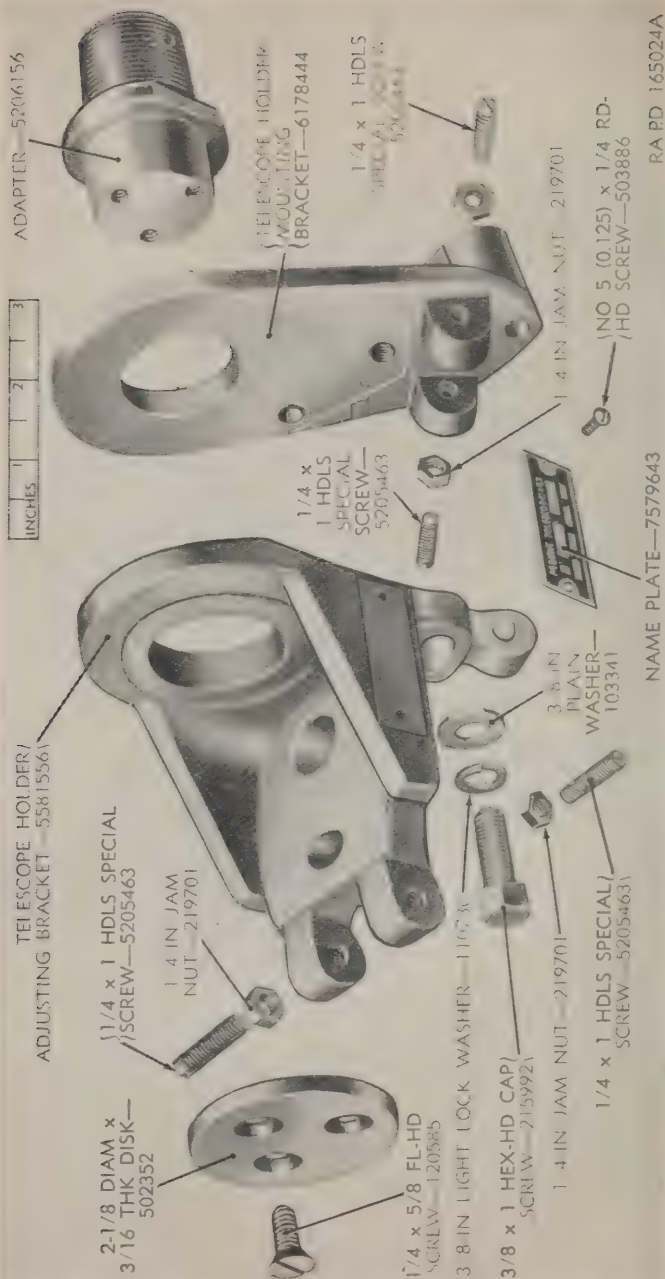

Figure 50. Telescope mount M42—major components of the mount—exploded view.
*a.* Loosen the two jam nuts on the two headless special screws (fig. 50) in the telescope holder adjusting bracket. Loosen nuts just enough for the holder assembly to clear the bracket.
(fig. 50)